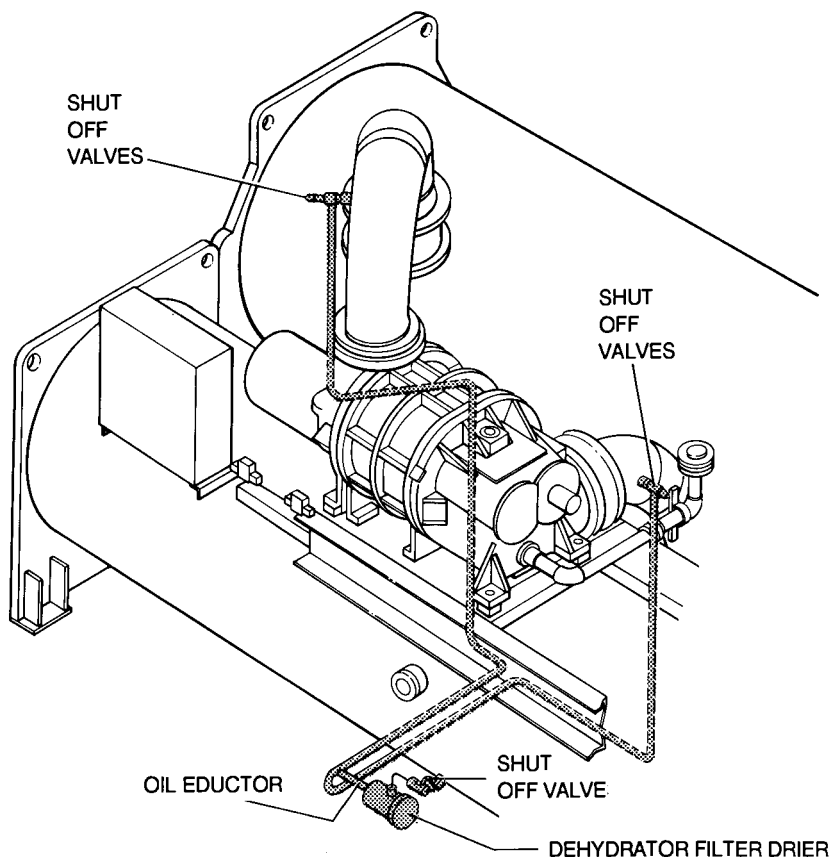

FIG. 12 – OIL RETURN SYSTEM
2. Remove the dehydrator filter drier as follows: Refer to Fig. 12.